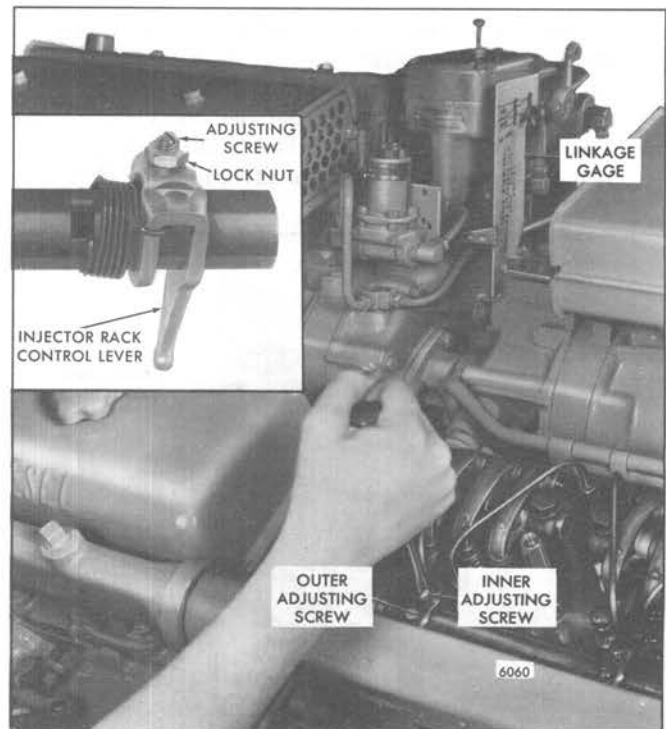

Fig. 5 - Positioning No. 4R Injector Rack Control Lever
6. Adjust the No. 4R (16V) or No. 3R (12V) injector rack by tightening the adjusting screw until the injector rack clevis is observed to roll up or an increase in effort to turn the screwdriver is noted (Fig. 5). Tighten the screw approximately 1/8 of a turn more and lock securely with the adjusting screw locknut. This will place the No. 4R (16V) or No. 3R (12V) injector rack in the *full-fuel* position.